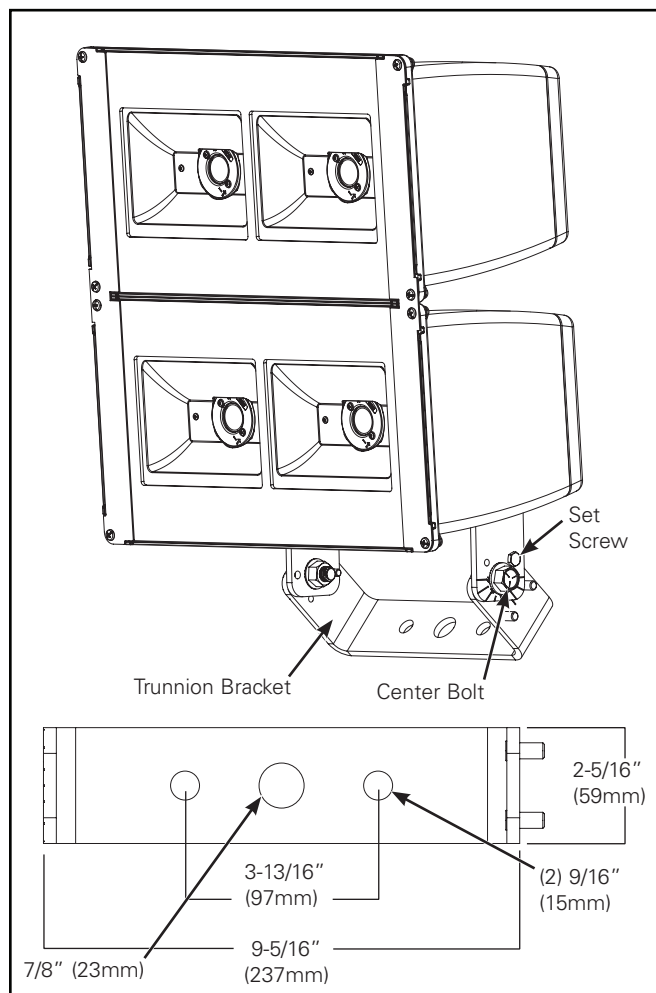

Figure 1.
### Trunnion Mounting (Figure 1.)
2. Loosen but do not remove (2) center bolts and (1) set screw. (Figure 1.)